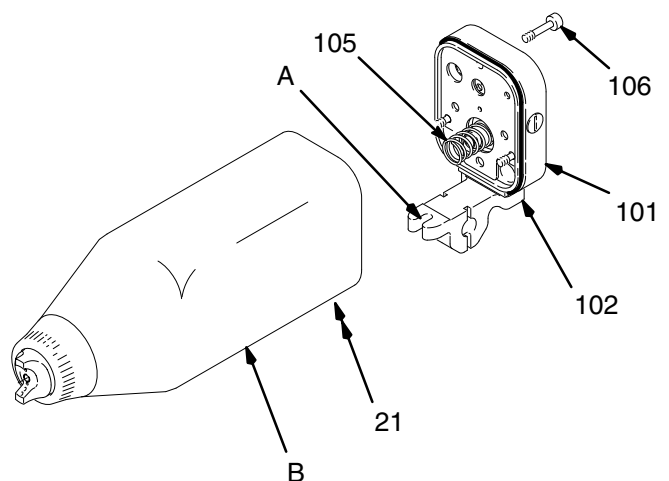

Fig. 19
3. Loosen the bottom gun screw (21) until the gun (B) sits loosely in the mounting bracket slot (A). Refer to Fig. 19.